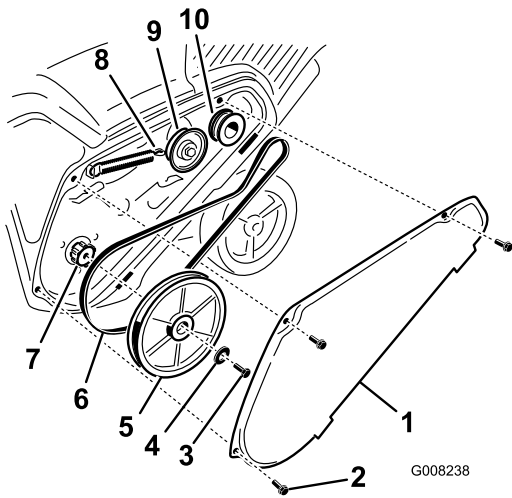

Figure 36
1. Remove the drive belt cover by removing the 3 bolts as shown in Figure 36.
7. Install the curved washer and the rotor pulley bolt and tighten them securely (Figure 36).
2. Unhook the brake spring from the idler arm to release the belt tension (Figure 36).
3. Remove the screw and curved washer that holds the rotor pulley (Figure 36).
4. Remove the rotor pulley and the drive belt (Figure 36).
Note: Route the new drive belt first around the engine pulley, then the idler pulley, and finally around the loose rotor pulley positioned just above the rotor shaft (Figure 36).
6. Install the rotor pulley onto the rotor shaft (Figure 36).